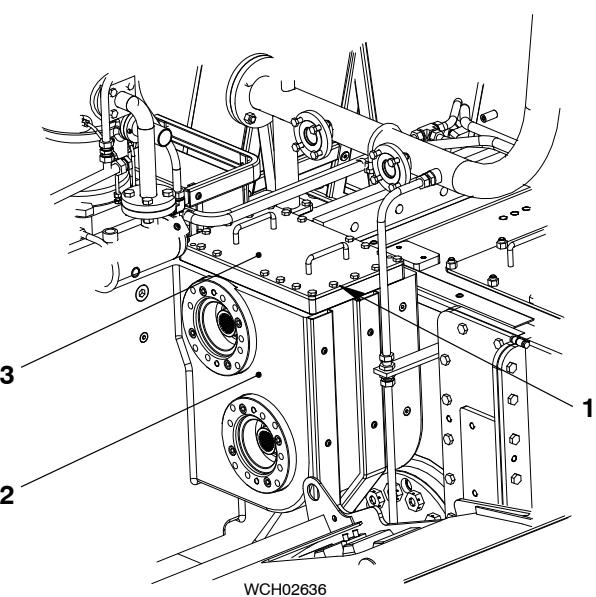
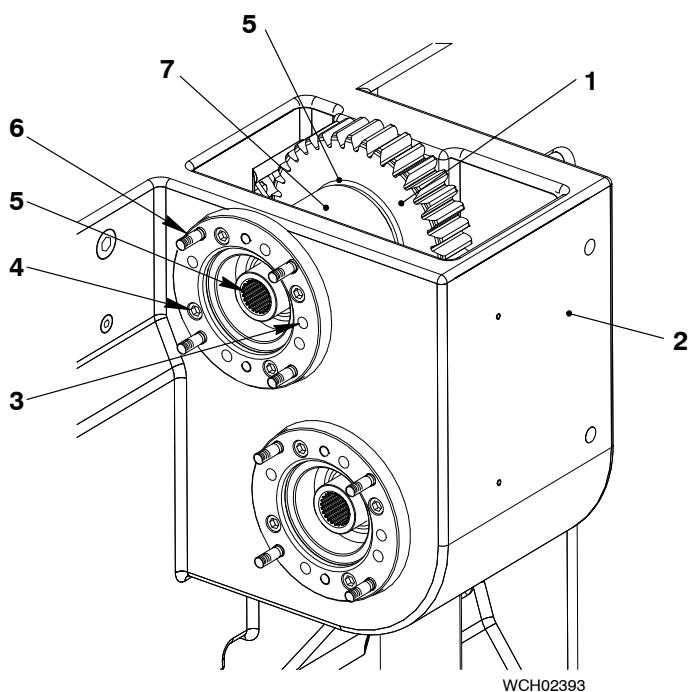
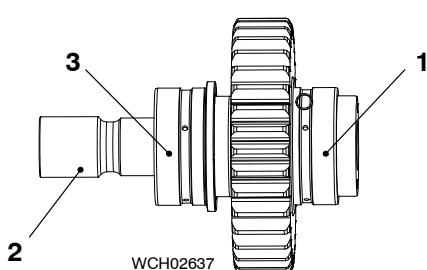

Fig. 6
Fig. 7
Fig. 8
- 1) Remove the 20 screws (1, Fig. 6) from the cover (3).
- 2) Remove the cover (3) from the casing (2).
- 3) Remove the four screws (4, Fig. 7).
- 4) Move the pump support (7) a small distance away from the casing (2).
- 5) Put the sling (94202K) around the shaft (5) two times.
- 7) Put sufficient tension on the sling (94202K) to hold the shaft (5) and pinion (1) in position.
- 8) Remove the pump support (7) and the O-ring.
- 9) Carefully move the pinion (1) and shaft (5) in the direction of the driving end approximately 30 mm out of the casing (2).
- 10) Put one more sling (94202K) around the pinion (1) and shaft (5).
- 13) Carefully tilt the pinion (1) and shaft (5).
- 14) Carefully lift the pinion (1) and shaft (5) fully out of the casing (2).
- 15) Lower the pinion (1) and shaft (5) to an applicable area.
- 16) Examine the two bearing bushes (1, 3 Fig. 8) for wear and damage.
- 18) Put oil on the two bearing bushes (1, 3 Fig. 8) and the shaft (2) of the pinion.
- 21) Put a small quantity of oil on the O-ring (4).
- 22) Remove one of the two slings (94202K) from the pinion (1) and shaft (5).
- 23) Put the pump support (5) in position. Make sure that the dowel pin (6) in the pump support engages with the related hole in the casing (2).
- 24) Torque the four M16 screws (7) to the value given in 0352-2, paragraph 1.
- 25) Remove the other sling (94202K) from the pinion (1) and shaft (5).
- 27) Attach the cover (3, Fig. 6) to the casing (2) with the 20 screws (1).